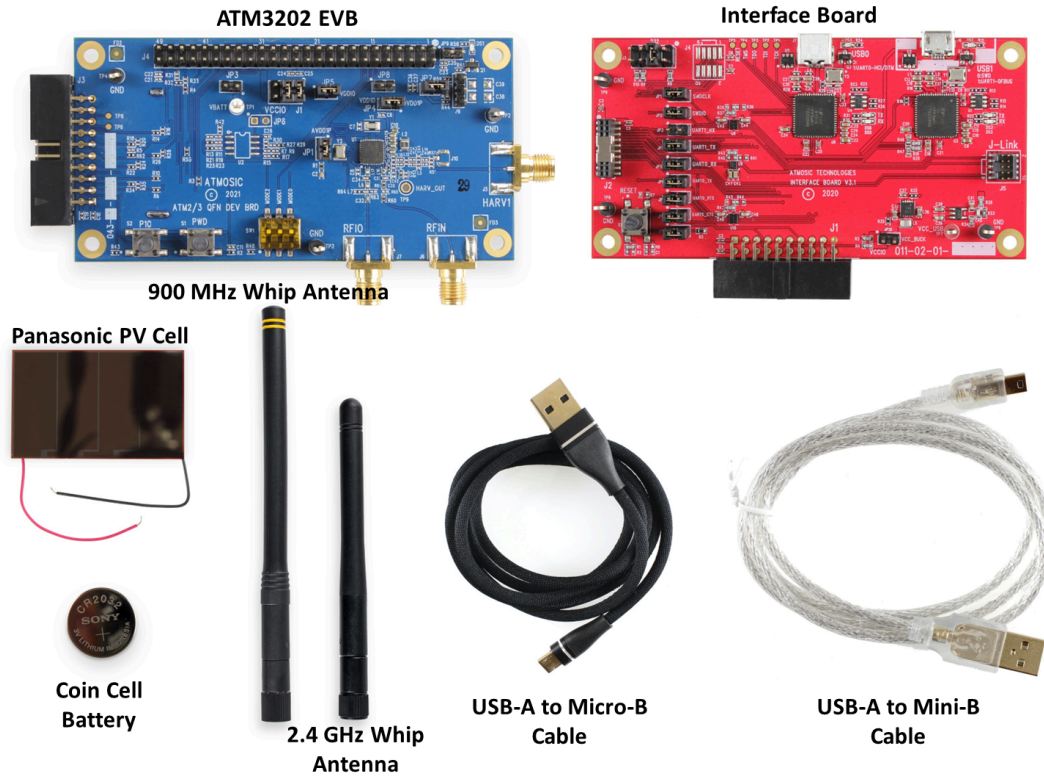
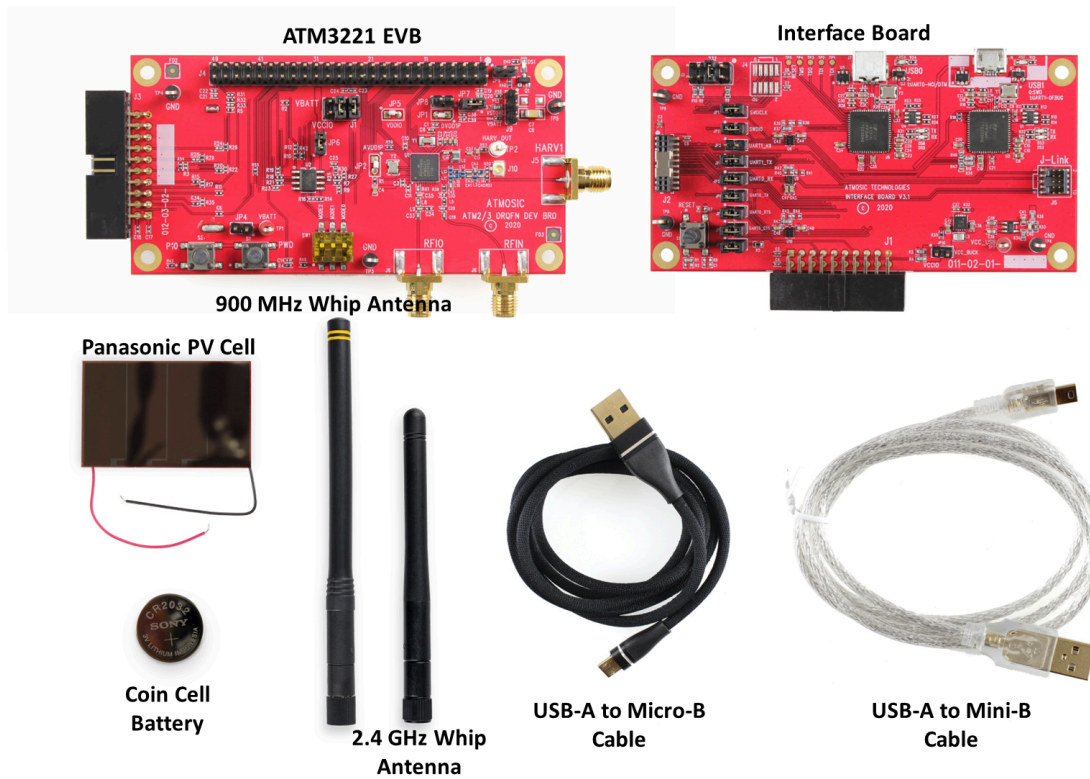

Figure 1 - Items Included in the ATM3202 EVK
Figure 2 - Items Included in the ATM3221 EVK
- Figure 1 - Items Included in the ATM3202 EVK
- Figure 2 - Items included in the ATM32xx Evaluation Kit (EVK)
The ATM32xx EVK comprises of the following (shown in Figure 1 and Figure 2):